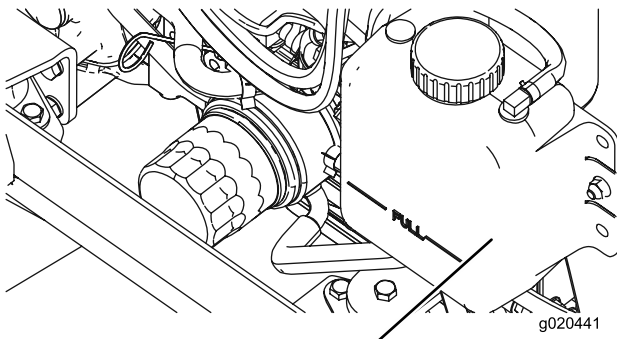

Figure 11
1. Carefully remove the radiator cap and expansion tank cap (Figure 11).